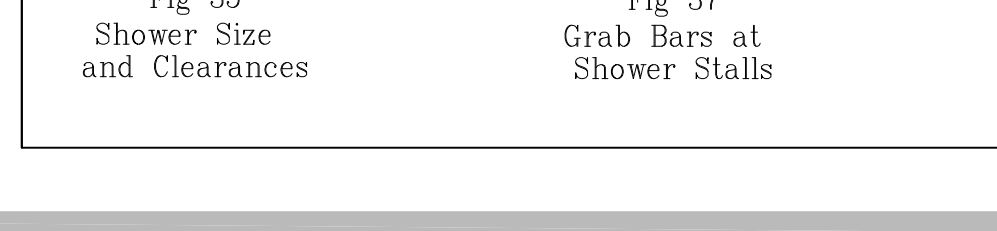

Fig 37
c. GRAB BARS SHALL BE PROVIDED AND COMPLY WITH FIG. 37.